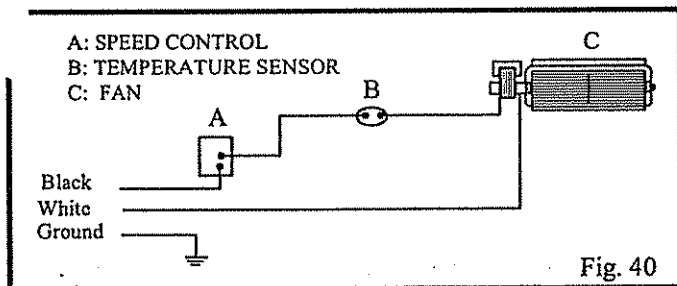

Fig. 40
**Should this fan require servicing, the power supply must be disconnected. For rewiring of any replacement components see Fig. 40 & 41.**
3. Attach the magnets to the trim as shown in Fig. 40.